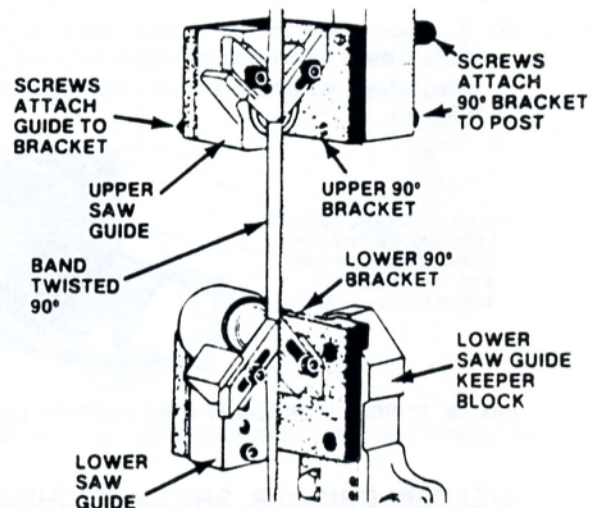

FIG. 42. 90° BAND GUIDE BRACKETS.
- (1) These brackets permit cutting materials longer than the machine's regular throat capacity. Mount upper and lower brackets as shown in Fig. 42.